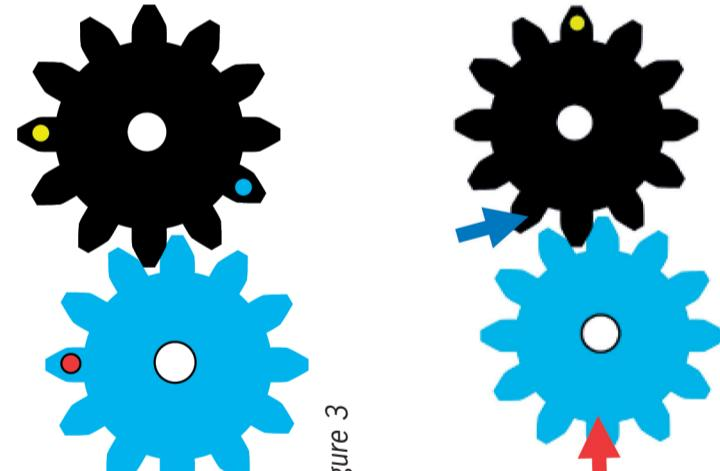

Figure 4
- (b) The black gear is turned clockwise until the yellow dot reaches the position shown in Figure 4. Redraw Figure 4 and draw arrows to show where the blue and red dots will be.